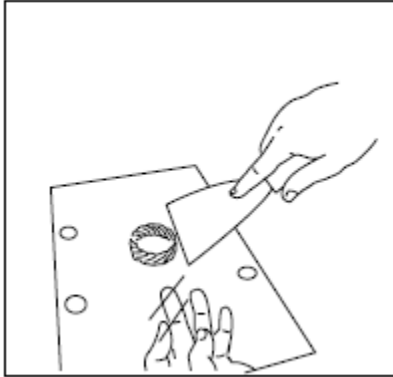

Figure 6: Remove the object using spatula
- Using a spatula, gently dig around the edges of the object in order to loosen it (Figure 6).